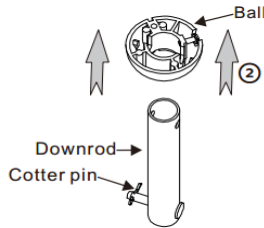

Fig. 2
2. Remove the hanging ball and keep it for step 6 (Fig. 2).